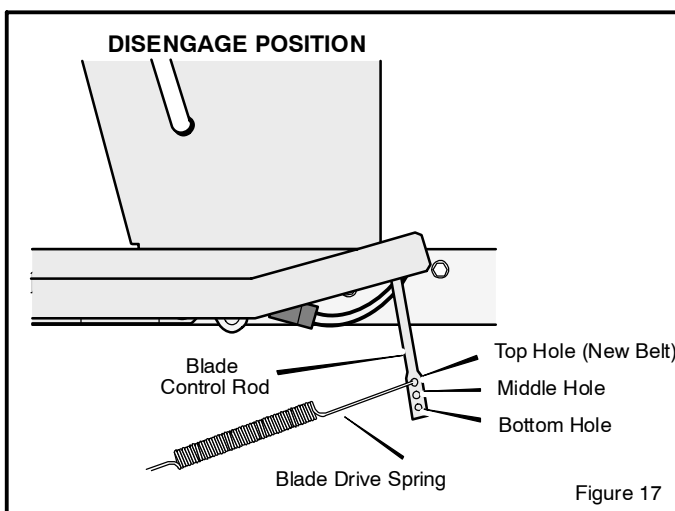

Figure 17
5. Disconnect the **blade drive spring** from the **blade control rod**. Move the **blade drive spring** to the *middle hole* (Figure 17). This will increase the tension on the **mower drive belt**.
12. If you replace the **mower drive belt**, move the **blade drive spring** to the *top hole* (Figure 17).